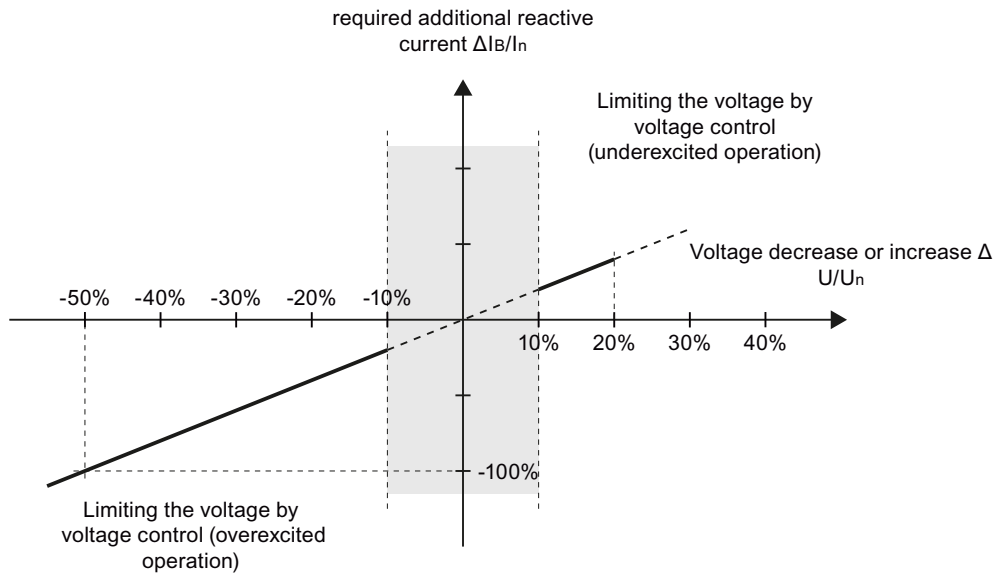

Figure 3-3 Dynamic grid support with voltage control in accordance with German BDEW Guidelines
- The default setting of the characteristic curve parameter corresponds to the characteristic in accordance with Figure 3-3.